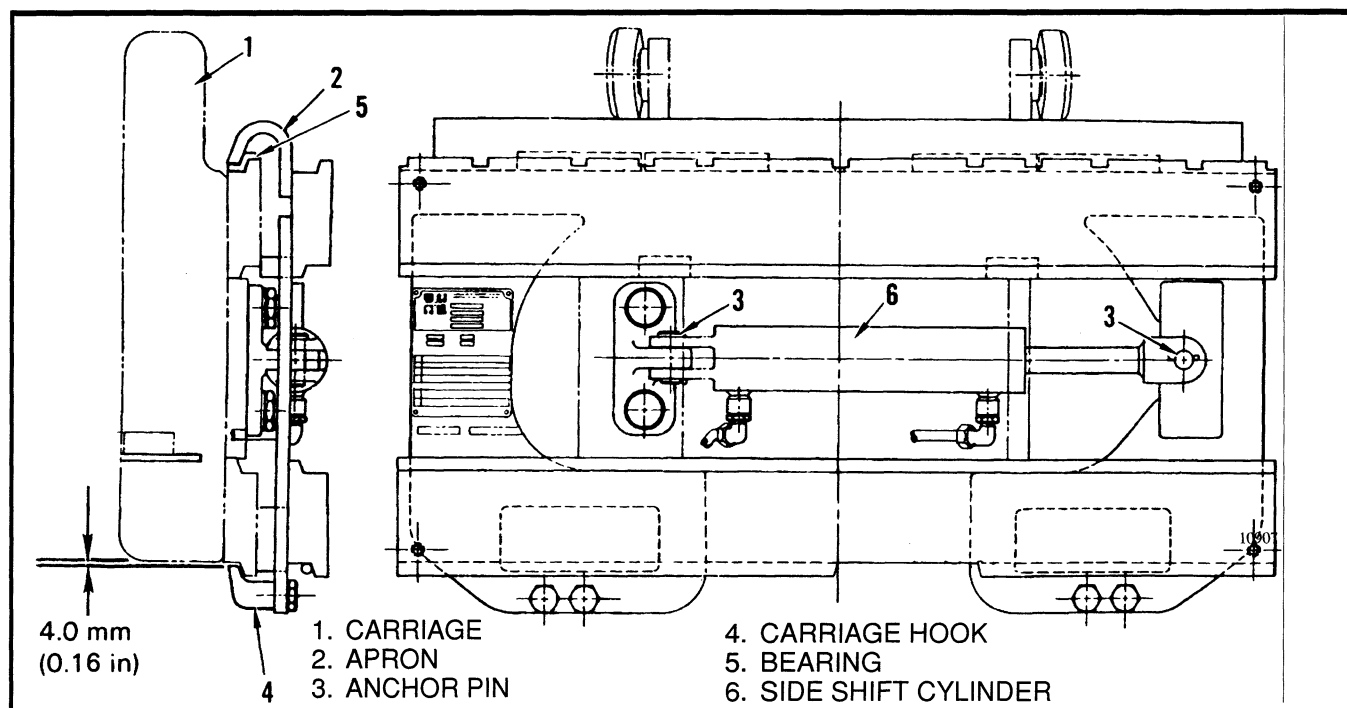

FIGURE 13. SIDE SHIFT CARRIAGE
SIDE SHIFT CARRIAGE (See FIGURE 13.)
3. Install the two carriage hooks at the bottom of the apron. Check the clearance between carriage hook and the carriage. See FIGURE 13. If the clearance is more than 4.0 mm (0.16 in), move the hooks to the upper mounting position in the apron. Tighten the capscrews to 165 N.m (122 lbf ft).